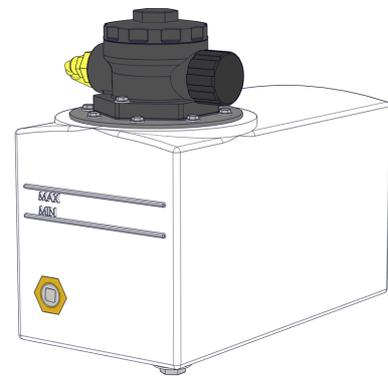

Figure 25 - Hydraulic Tank
3. Clear all debris from around the hydraulic tank (Figure 25).
9. Refill with hydraulic oil VG32 to between the 'Min' and 'Max' lines on the tank (15 litres) (Figure 25).